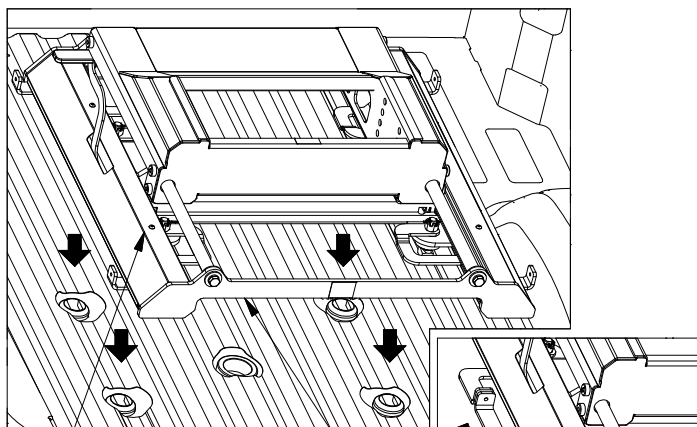

Figure B1: View of unlatched base.
CAUTION: Lifting the slider base under the sheet metal covers may cause damage to the base, grip base by end rail supports to lift, see Figure B1.
1. **Place Base.** Remove the latch pins from each side of the base and rotate the handles out, see Figure B1. Place the base over the attachment points and carefully lower it until the latch cams pass through the floor and the base rests flat against the top of the attachment points.